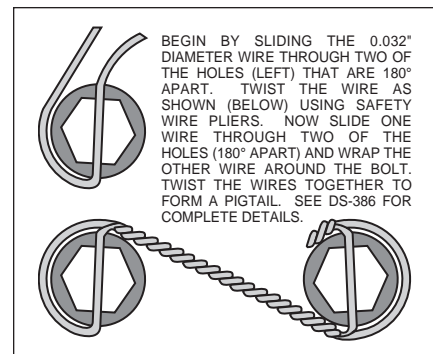

Figure 3. Safety Wire Diagram
- With the larger I.D. side of the rotor (5) facing away from the hat (6), bolt rotor (5) to hat (6) through the backside of the rotor using washers (7) and bolts (8). Torque bolts (8) in an alternating sequence to 85 in-lb. Safety wire bolts (8) using standard 0.032 inch diameter stainless steel safety wire as shown in Figure 3. Please refer to Wilwood's data sheet DS-386 (available at www.wilwood.com/Pdf/DataSheets/ds386.pdf) for complete safety wire installation instructions. Slide the rotor/hat assembly onto the spindle. Check to be sure the hat seats squarely against the hub. Install a couple of lug nuts (finger tighten) to keep the rotor/hat assembly in place while continuing with the installation.